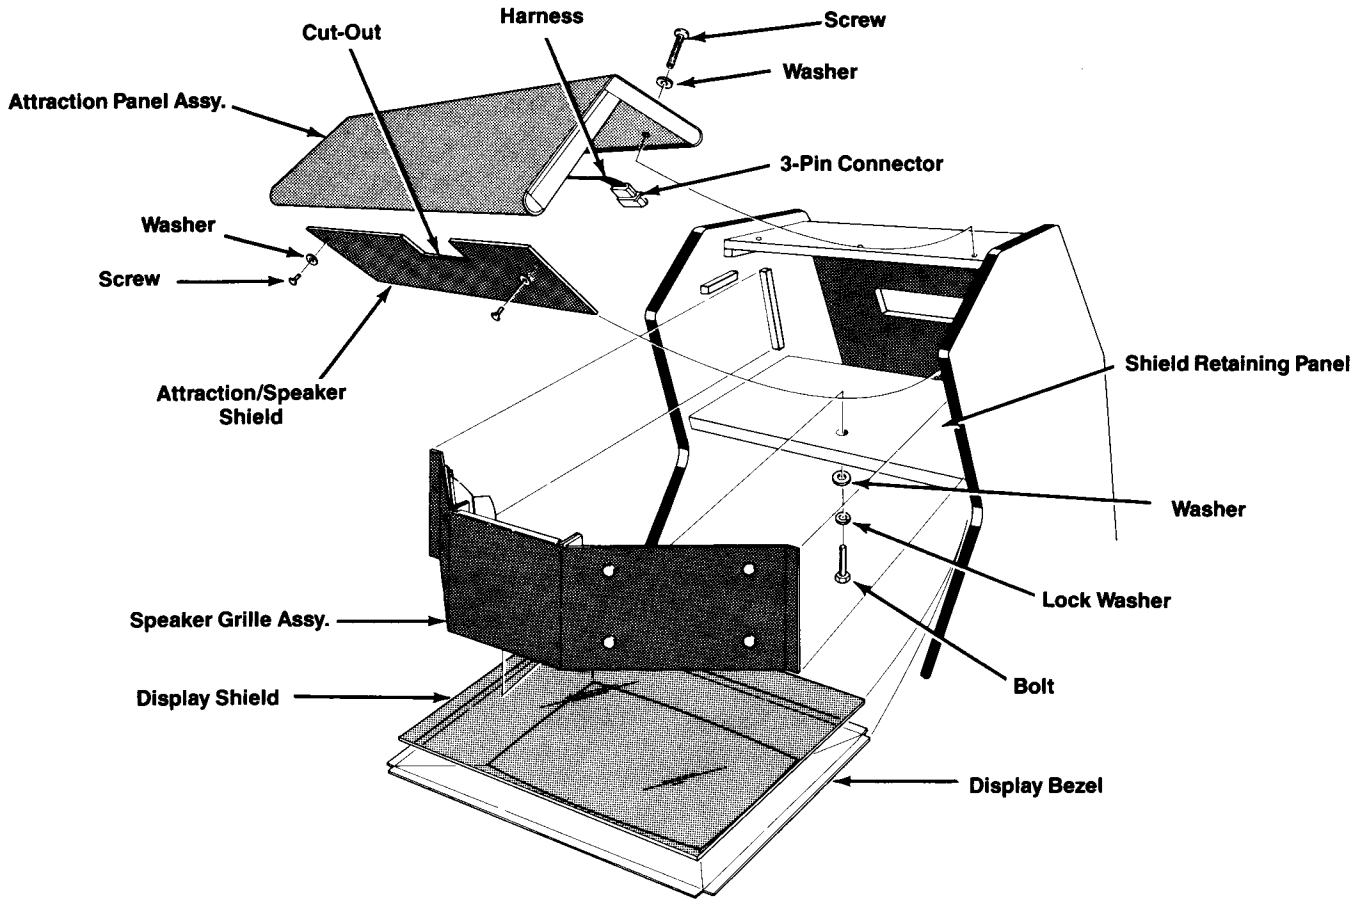

Figure 4-3 Speaker Grille Removal
1. Remove the 3 socket-head screws and 6 flat washers that secure the attraction panel assembly to the cabinet (see Figure 4-3). Lift the attraction panel assembly up and out of the cabinet.
2. Disconnect the fluorescent light harness at the 3-pin connector (see Figure 4-3).
3. Remove the 2 Phillips-head screws that secure the attraction/speaker shield (see Figure 4-3). Slide the shield out of the cabinet.
2. Secure the speaker grille assembly to the cabinet with the bolt and washer (see Figure 4-3). Align the front grille surface parallel with the leading edge of the shield retaining panel.